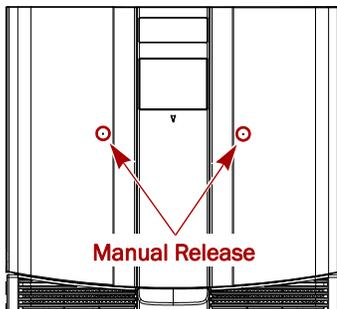

Figure 1. Manual Door Release Locations
**IMPORTANT:** If the library is non-operational, the doors can be manually opened by pushing a stiff wire through the front panel release holes (Figure 1).